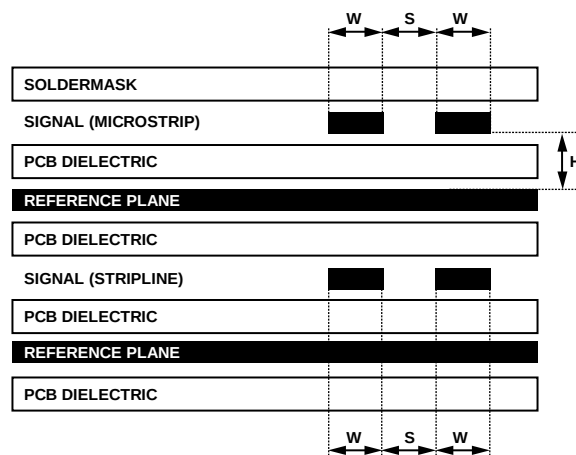

Figure 75. Example of a PCB Cross-Section
Route the high speed differential inputs and outputs with $100\ \Omega$ controlled impedance differential transmission lines. Reference the transmission lines, either microstrip or stripline, to a solid low impedance reference plane. An example of a PCB cross-section is shown in Figure 75. The trace width (W), differential spacing (S), height above reference plane (H), and dielectric constant of the PCB material determine the characteristic impedance. To minimize crosstalk, keep adjacent channels apart by a distance that is greater than three trace widths (3W).